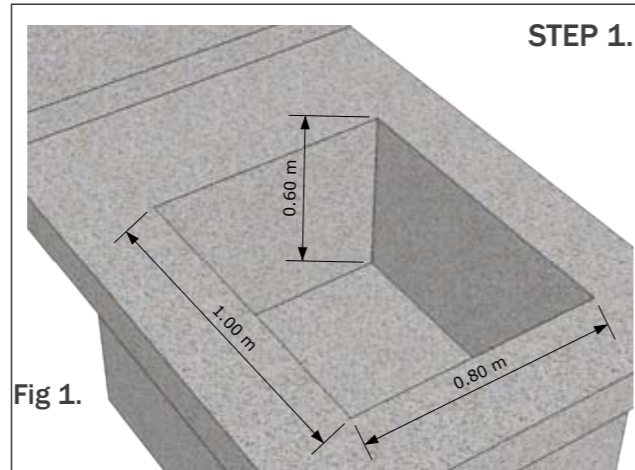

Fig 1.
A. Form a concrete box to the same structural integrity as the rest of the concrete slab or raft. The box should be at least 600mm deep x 800mm wide. The dimension perpendicular to the wall accommodates the connections to the sump and should be 1000mm as in Fig. 1. Alternatively create a recess 300mm towards the wall, 100mm deep and 800mm wide as shown in Fig. 2.
B2. Fit the discharge line 'S' Bend to the Bulk Head connection (Part A). If two discharge lines are to be used, one for each pump, fit the second 'S' Bend to the other Bulk Head connection. Ensure the 'S' Bend is straight so that the outlet is at its highest possible position and glue into the Bulk Head connection. Fit the Blank(s) Part M to the outlet(s) S bend (Part D) See Fig 1. adjacent. Fix the two conduit pipes Parts J & K) to the sump wall connectors. Route the two lengths on conduit back into the sump as shown in drawing adjacent.